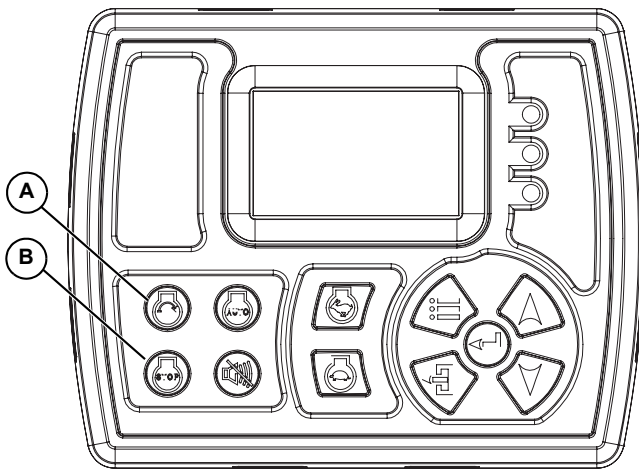

Figure 3-1. Controller Start and Stop
- See Figure 3-1. Press start button (A).
- See Figure 3-1. Press stop button (B).